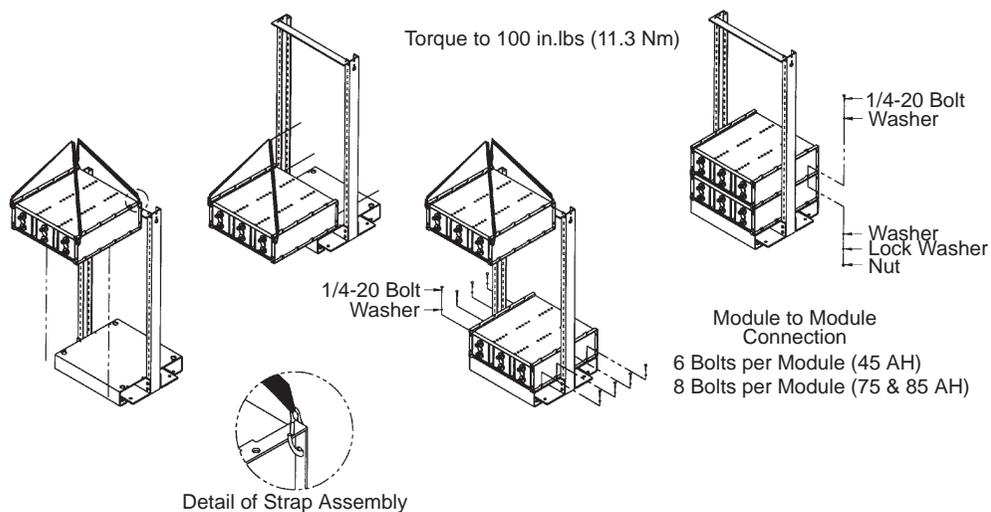

Figure 6-5: Module Placement
4. Using the lifting straps provided, remove the top module from the shipping pallet and bolt it to the module base support. (See Figure 6-5.)